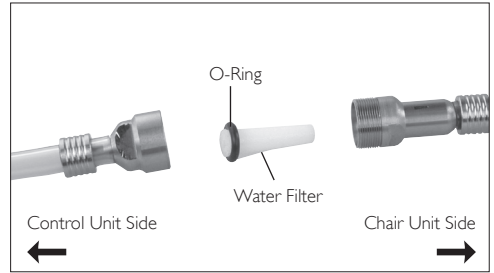

Fig.22
- 3) When the Water Filter case is separated, the Water Filter can be removed. **(Fig. 22)**